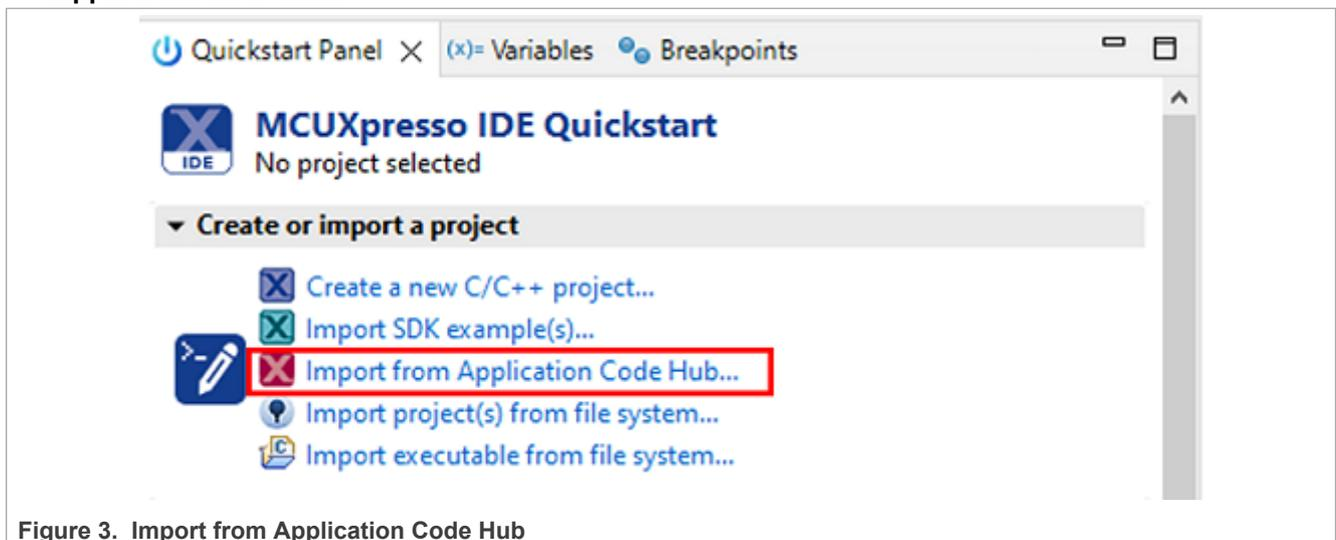

Figure 3. Import from Application Code Hub
1. As shown in Figure 3, open MCUXpresso IDE 11.9.0, on the **Quickstart Panel**, choose **Import from Application Code Hub**.